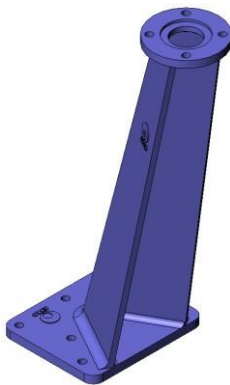

fig. 7
- Leaning floor stand (Fig. 7)